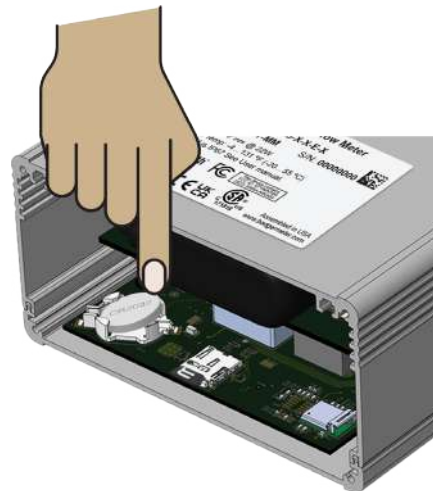

Figure 24: Insert new coin battery
- b. Insert a new battery at an angle (see Figure 24). Push down on the top of the battery until it snaps in place. The battery does not snap in place if it is installed incorrectly.